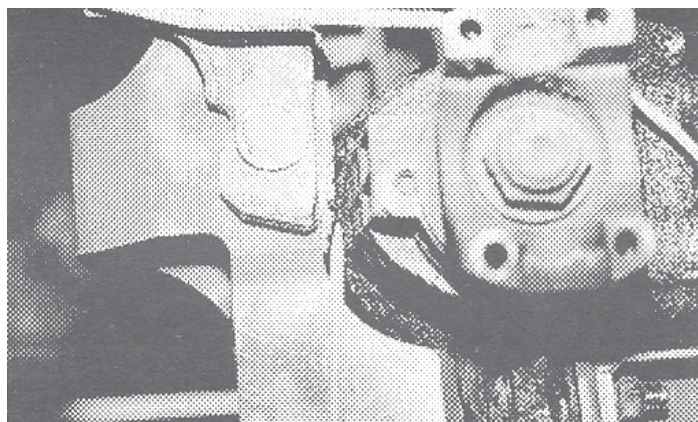

Fig. 20
19. Check clearance between differential and OE DVR side lower control arm receiver. Minimum clearance 3/16". If clearance is less than 3/16" relieve and dress receiver and/or differential "fins" to gain clearance. **Fig. 20**.